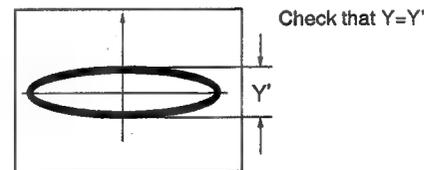

Fig. 2 Lissajous figure of the outer track of the disc (CD)
At this time, check that the Y-axis amplitude of the Lissajous figure is the same as that noted in step 4. (Fig. 2)
4. Fine-adjust the grating so that the Y-axis amplitude of the Lissajous figure is minimized. (Fig. 2)
9. Re-open the TRKG servo and observe the Lissajous figure to check that the Y-axis amplitude is minimum. (Fig. 2) If the Y-axis amplitude of the Lissajous figure is larger than specified, repeat the adjustment procedures from steps 5 to 8.
10. After adjustment is complete, perform the adjustment in "8. Spindle Motor Centering Check" item 6.